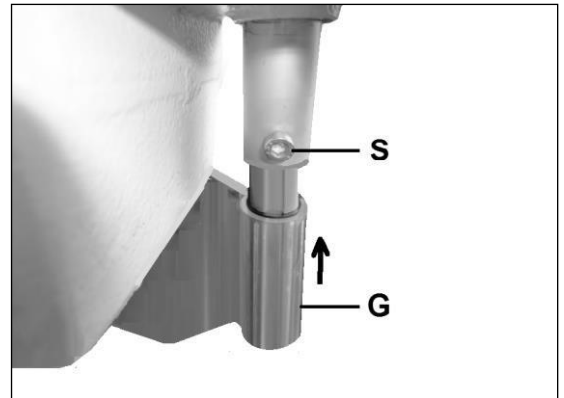

Fig 14
Loosen the hex socket screw (S, Fig 14) and install the chuck guard assembly (G).